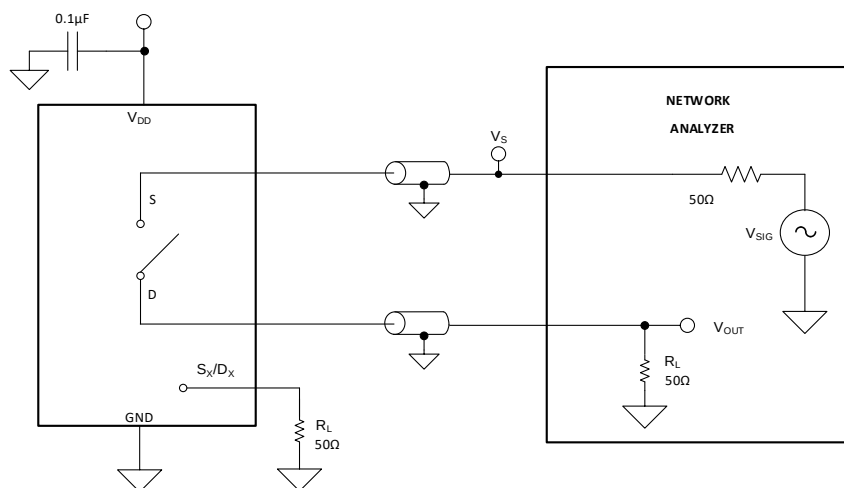

Figure 14. Off Isolation Measurement Setup
Off isolation is defined as the ratio of the signal at the drain pin (D) of the device when a signal is applied to the source pin (Sx) of an off-channel. Figure 14 shows the setup used to measure, and the equation to compute off isolation.